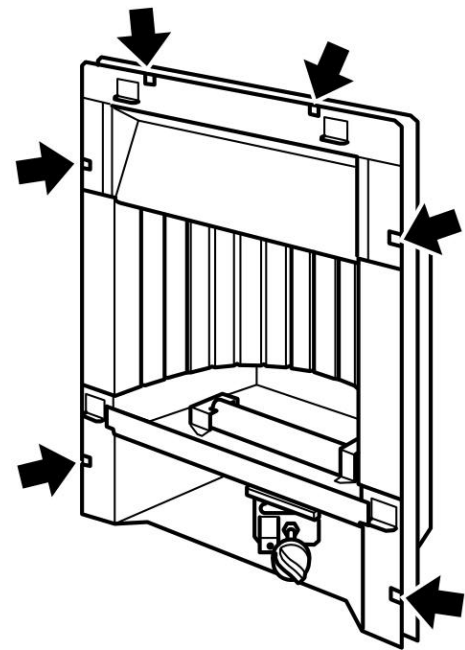

Figure 14. Fitting the edge clips
10. Locate the spacer frame to the rear of the hotbox (**The foam seal must be to the rear of the spacer frame and NOT against the flanges of the hotbox**). Secure the spacer frame to the hotbox using the six edge clips supplied. Position these as in figure 14.